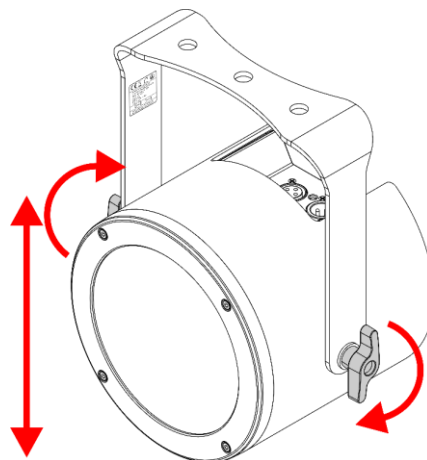

**Fig. 07**
- 01) Use a clamp to attach the device to the supporting structure, as shown in Fig. 07. Make sure that the device cannot move freely.
- 02) Secure the device with a secondary suspension, for example a safety cable. Make sure that the secondary suspension can hold 10 times the weight of the device. If possible, the secondary suspension should be attached to a supporting structure independent of the primary suspension. Put the safety cable around the **mounting bracket (01)**, as shown in Fig. 07.